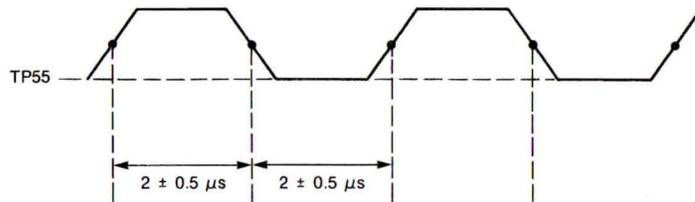

FIGURE 4-19. READ DATA TRANSITION
2. Scope TP 55 to verify that the signal pattern is identical to the pattern shown in Figure 4-19. If the signal pattern is not identical, adjust R44 potentiometer.